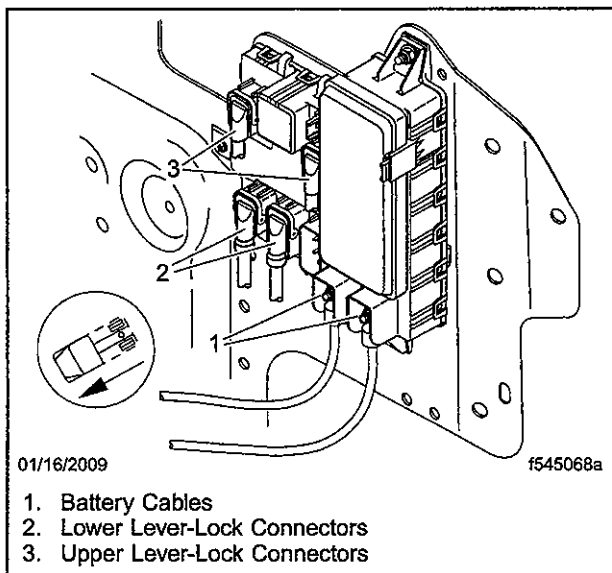

Fig. 11, SAM Chassis Frontwall Connections
20. Disconnect the two battery cables and the four lever-lock connectors from the SAM Chassis. See Fig. 11.